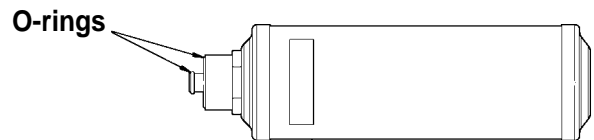

Figure 12
6. Look at the new filter—verify both o-rings are lubricated and correctly located in the grooves. See Figure 12. Thread the new filter into place. Press **START / YES**.